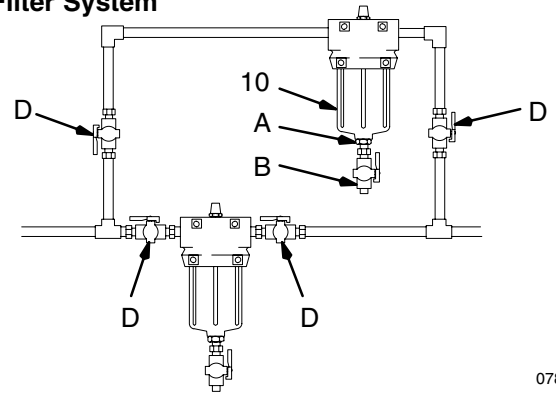

Fig 1
Install two filters as shown in Fig 1. Both filters must have an adapter (A) and drain valve (B) in the filter bowl (10) to relieve fluid pressure and drain the filter before removing the bowl. Install four suitable shut-off valves (D), one at each filter inlet and outlet, to redirect the fluid and isolate the filter not in use.